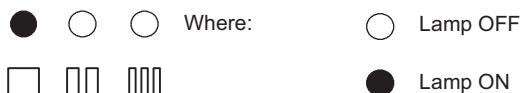

Figure 10.8
- 8 The lamps F should give the indication as in Figure 10.8 (useful output, first step). If not, press the reset button repeatedly to obtain it.